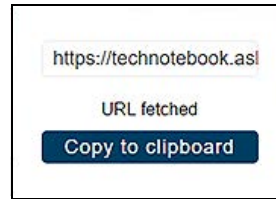

Figure 10-13
3. Select **Copy to Clipboard** (Figure 10-13) from the pop-up window.